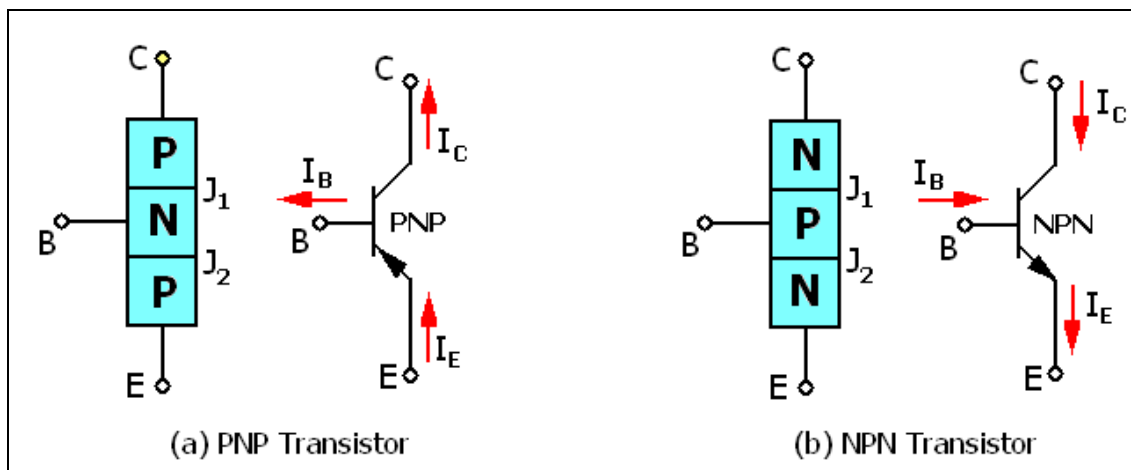

Fig. 3.2-1 PNP & NPN Transistor Structure & Symbols
When another section or region of P or N type material is added to a PN diode junction to form three sections, a three-element device, containing two junctions, (J_1 & J_2) is produced. This three-element device is a bipolar transistor with the emitter (E), the base (B) and the collector (C), as shown in Fig. 3.2-1 The term bipolar refers to the use of both holes and electrons as carriers in the transistor structure.
It is cleared from Fig. 3.2-1 the directions of each terminal current I_C , I_B and I_E if it is inter or out to the transistor junctions in each of the PNP or NPN types.
Transistors are classified by the arrangement of the P and N type materials and are either PNP or NPN types. The connections for PNP, NPN transistors and their symbols are shown in Fig. 3.2-1. The PN junction joining the base region and the emitter region is called the Base-Emitter junction. The junction joining the base region and the collector region is called the Collector-Base junction, as indicated. A wire lead